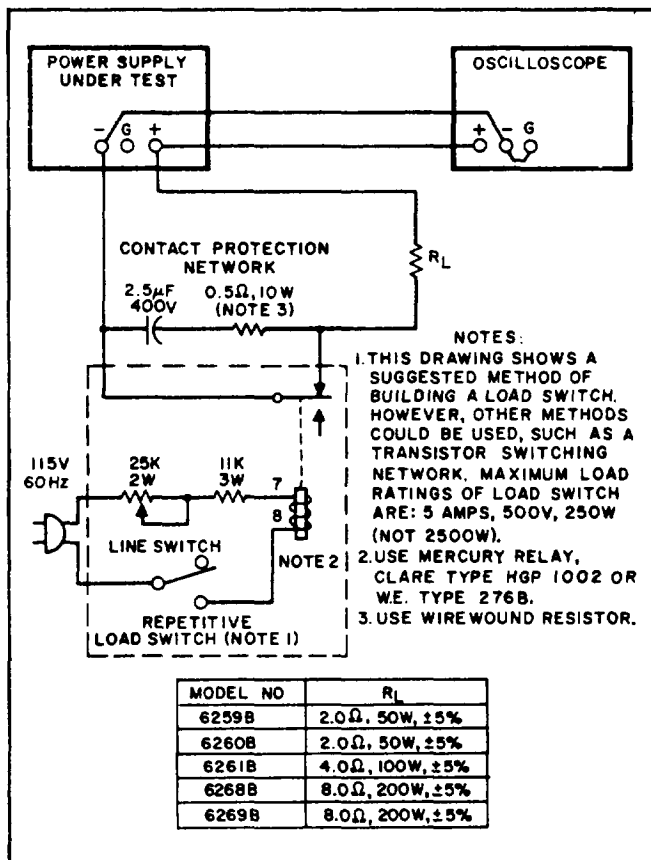

Figure 5-5. Transient Recovery Time Test Setup
5-30 A mercury-wetted relay, as connected in the load switching circuit of Figure 5-5 should be used for loading and unloading the supply. When this load switch is connected to a 60Hz ac input, the mercury-wetted relay will open and close 60 times per second. Adjustment of the 25K control permits adjustment of the duty cycle of the load current switching and reduction in jitter of the oscilloscope display.
5-31 The load resistances shown in Figure 5-5 are the minimum resistances that must be used in order to preserve the mercury-wetted relay contacts. Switching of larger load currents can be accomplished with mercury pool relays; with this technique fast rise times can still be obtained, but the large inertia of mercury pool relays limits the maximum repetition rate of load switching and makes the clear display of the transient recovery characteristic on oscilloscope more difficult.
- Connect test setup shown in Figure 5-5.